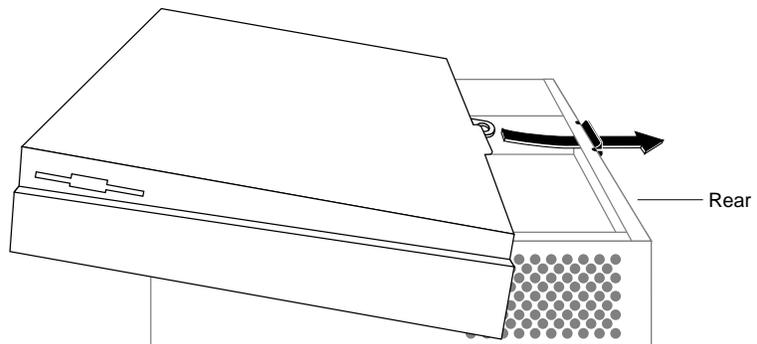

Figure 1-12 Replacing the top cover
1. Facing the front of the system, lower the cover about one inch from its fully closed position, as shown in Figure 1-12.